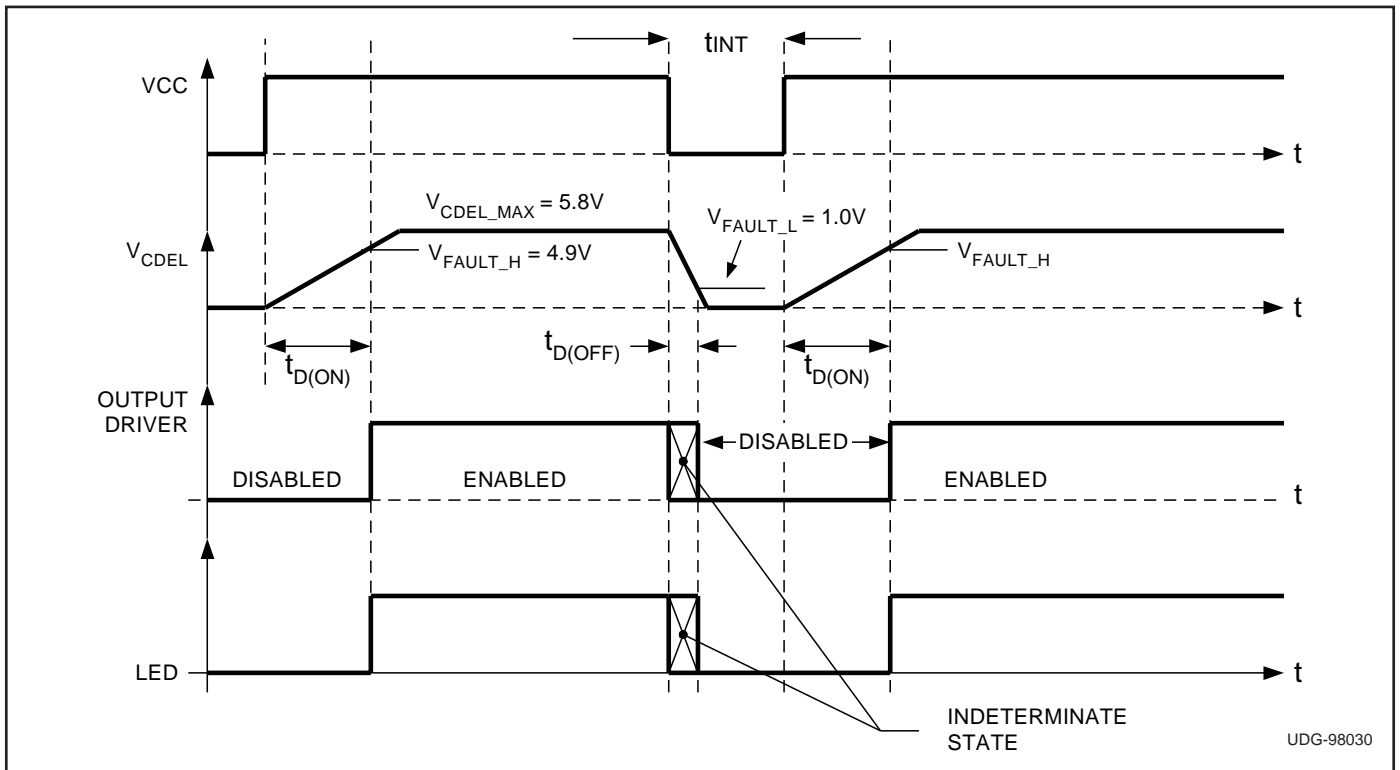

Figure 3b. Power interrupt fault operation, high side configuration,  $V_{IN} = 5VDC$ .
**LED:** Open collector output intended to drive an LED. This pin is driven low whenever the output is turned off and is externally pulled high when the output is turned on (see Fig. 3b and 3c).
CDEL is selected such that the time it takes for this capacitor to discharge from  $V_{CDEL\_MAX}$  (5.8V) to  $V_{FAULT\_L}$  (1.3V) with a discharge current of  $94\mu\text{A}$  is just greater than this  $t_{INT}$ . This time is referred to as  $t_{D(OFF)}$  in Fig. 3b.
Using the  $10\text{nF}$  CDEL capacitor, for example, the minimum turn-on delay calculates to  $9\text{ms}$ . If the CDEL capacitor discharges completely to zero, then the  $10\text{nF}$  CDEL capacitor would cause a turn-on delay of  $12.25\text{ms}$ . The outputs would be off for this amount of time after VCC power is restored. The total amount of time the outputs could be disabled is equal to the  $t_{INT}$  time, which may include the indeterminate time of  $t_{D(OFF)}$ , and the  $t_{D(ON)}$  time, as shown in Fig. 3b.